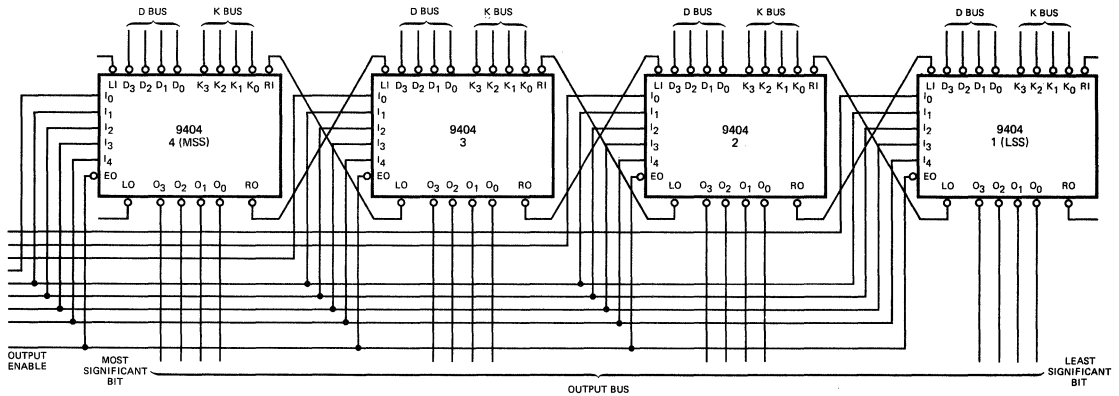

Fig. 1 16-BIT 9404 ARRAY
**9404 ARRAYS** — Arrays of larger than 4-bit word lengths are easily obtained. Figure 1 illustrates a 16-bit array constructed using four devices; device 1 is the least significant and device 4 is the most significant slice. Within each slice, inputs and outputs with '0' subscript are the least significant bits.